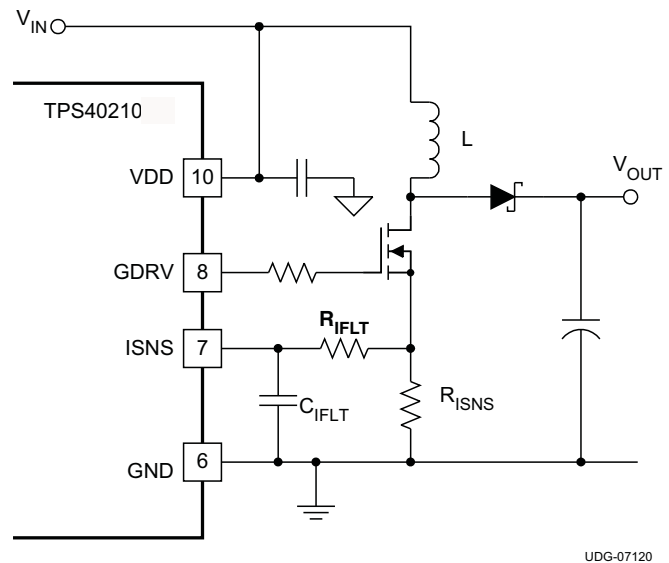

Figure 24. Current Sense Components
- $V_D$  is the drop across the diode in Figure 24
- $V_D$  is the drop across the diode in Figure 24 (10)
It is possible to increase the voltage compensation ramp slope by connecting the VDD pin to the output voltage of the converter instead of the input voltage as shown in Figure 24. This can help in situations where the converter design calls for a large ripple current value in relation to the desired output current limit setting.
In most cases, a small filter placed on the ISNS pin improves performance of the converter. These are the components  $R_{IFLT}$  and  $C_{IFLT}$  in Figure 24. The time constant of this filter should be approximately 10% of the nominal pulse width of the converter. The pulse width can be found using Equation 11.